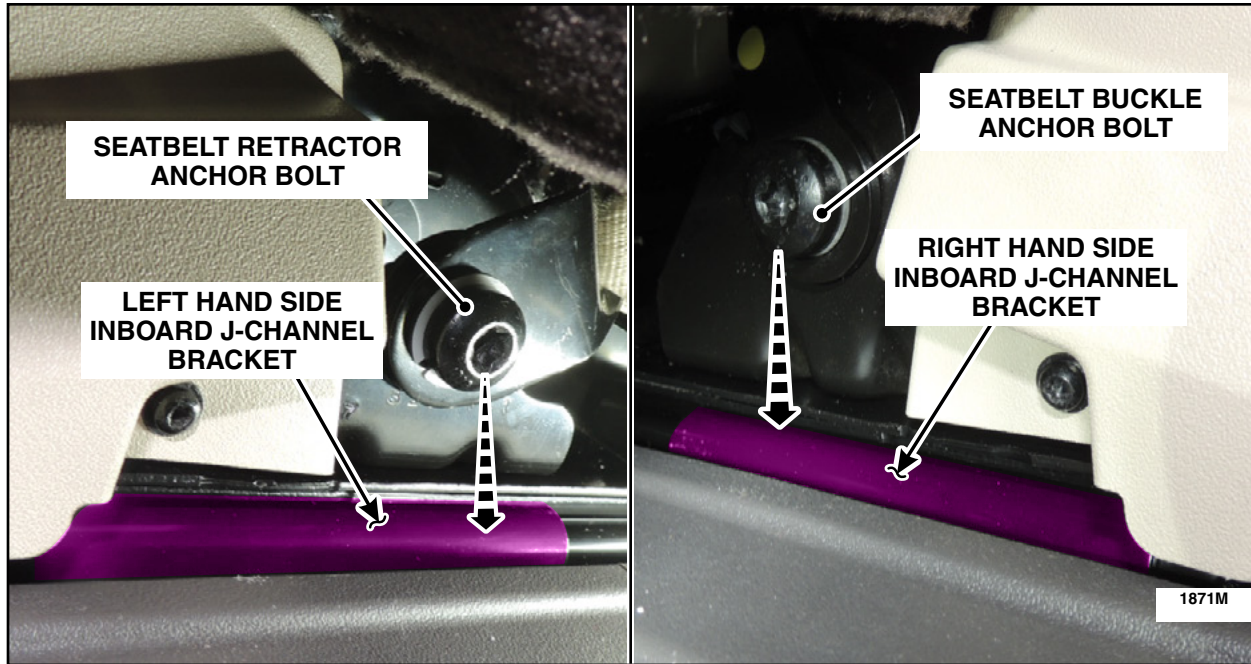

FIGURE 2
- Use the seatbelt retractor and the seatbelt buckle anchor bolts as a reference point for the j-channel brackets location as shown in Figure 2.